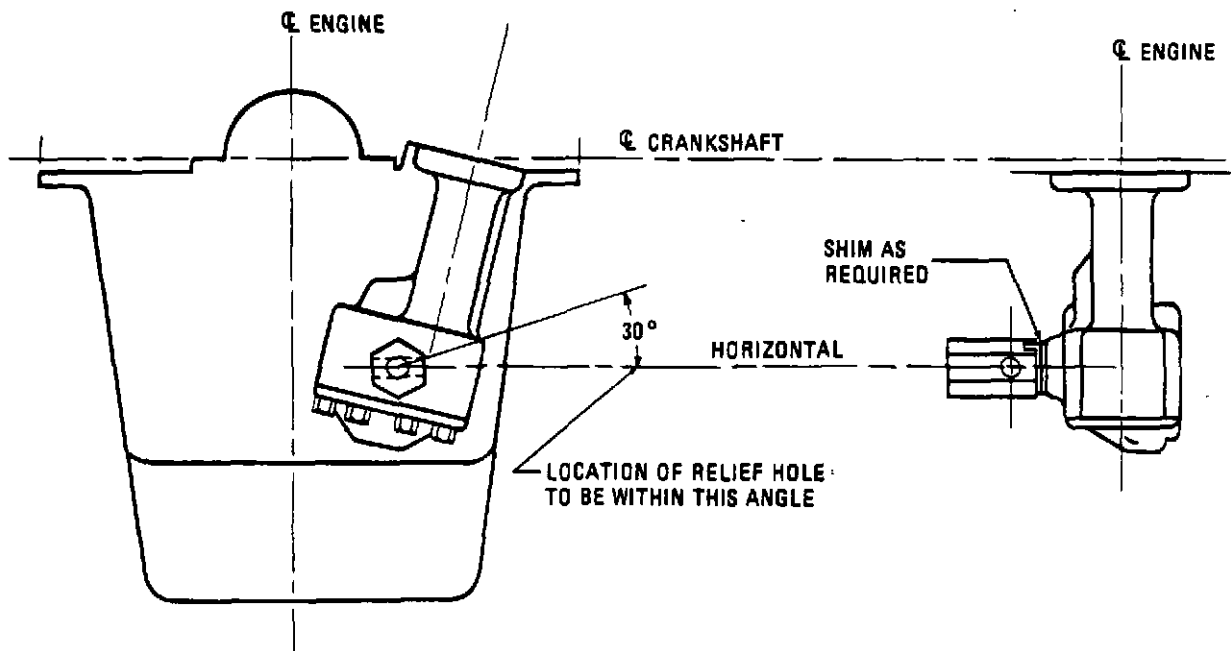

Figure 5-7. Oil Pressure Regulator Installation
7. Install the oil pump strainer (6) on the pump cover by turning in clockwise. Do not apply force against the screen.
8. Install the 65 psi oil pressure regulator (3) with a new lock washer (4). The regulator, when mounted on the pump, must be turned so that the relief hole is aligned within  $30^\circ$  of horizontal (see figure 5-7). This position will prevent oil from spraying up into the cylinder bore, and will direct the spray toward the center of the engine and against the oil pan surface. If the oil pressure regulator is in an incorrect position when tightened, add shims (5, figure 5-4) until the proper alignment is achieved.